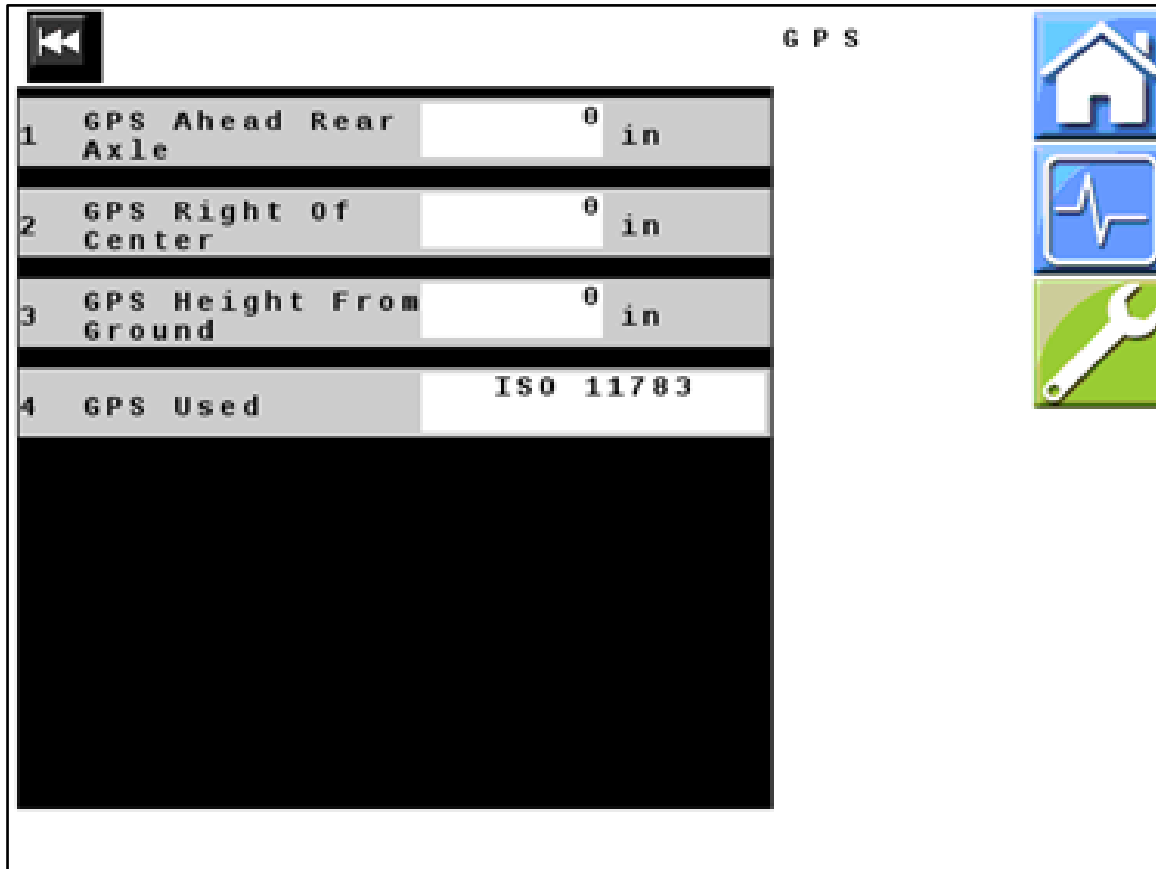

Figure 22 — GPS
38. *Figure 22:* Select the type of GPS from the list of available options. Not all of the options listed here may show on your system. Only the types available for your system will show on your list.